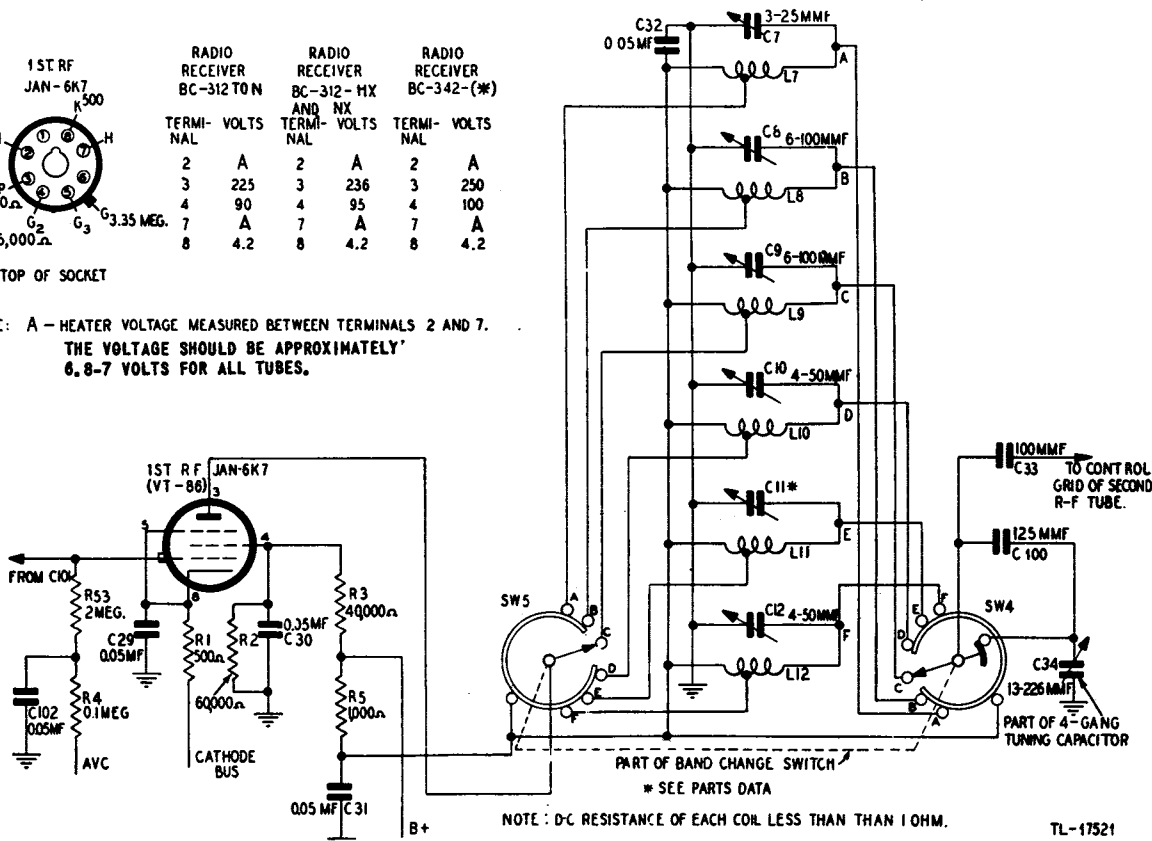

Figure 22. First r-f amplifier, schematic diagram.
b. VOLTAGE AND RESISTANCE MEASUREMENTS. The voltage and resistance measurements shown in figure 22 are made from the top of the tube socket with the tubes plugged into an adapter similar to that supplied with some models of Test Set I-56-(*). When no adapter is available, strip the ends of a short piece of insulated wire; wrap one end around the tube pin at which measurements are to be made. Plug the tube into its socket; connect the meter between the other end of the wire and the chassis to obtain these readings. Avoid grounding the wire to the chassis. Before making resistance measurements remove tubes from their sockets. Make the tests under the following conditions:
- (1) Voltage measurements.